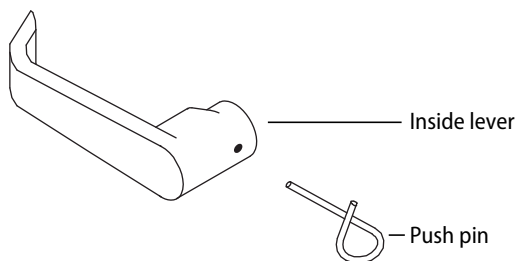

Figure 20 Removing the inside lever
- 1 Depress the lever catch through the hole in the inside lever by using the push pin or other suitable tool as shown in Figure 20.